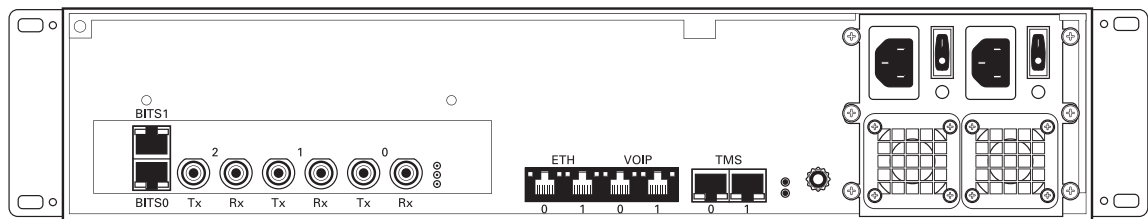

Figure 2.6 DS3 Interface to the PSTN
A TMG3200-DS3 with 3 sets of BNC connectors enables the connection to DS3 lines. See figure 2.6 on page 23.
1. Start with the Dual BNC port pair #0 (right-most) as shown in figure 2.6 on page 23. Connect one pair of BNC cables between this port and the DS3 line.